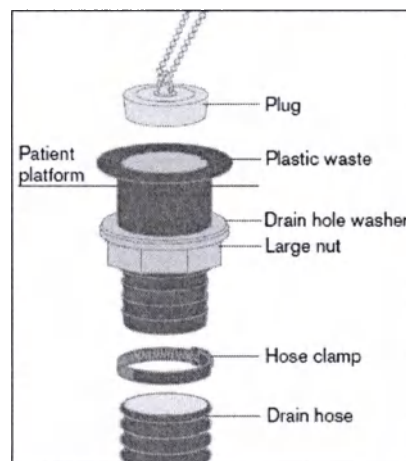

Figure 17. Drain Parts
5. TO REMOVE DRAIN PARTS AND DRAIN HOSE (see figure 17)